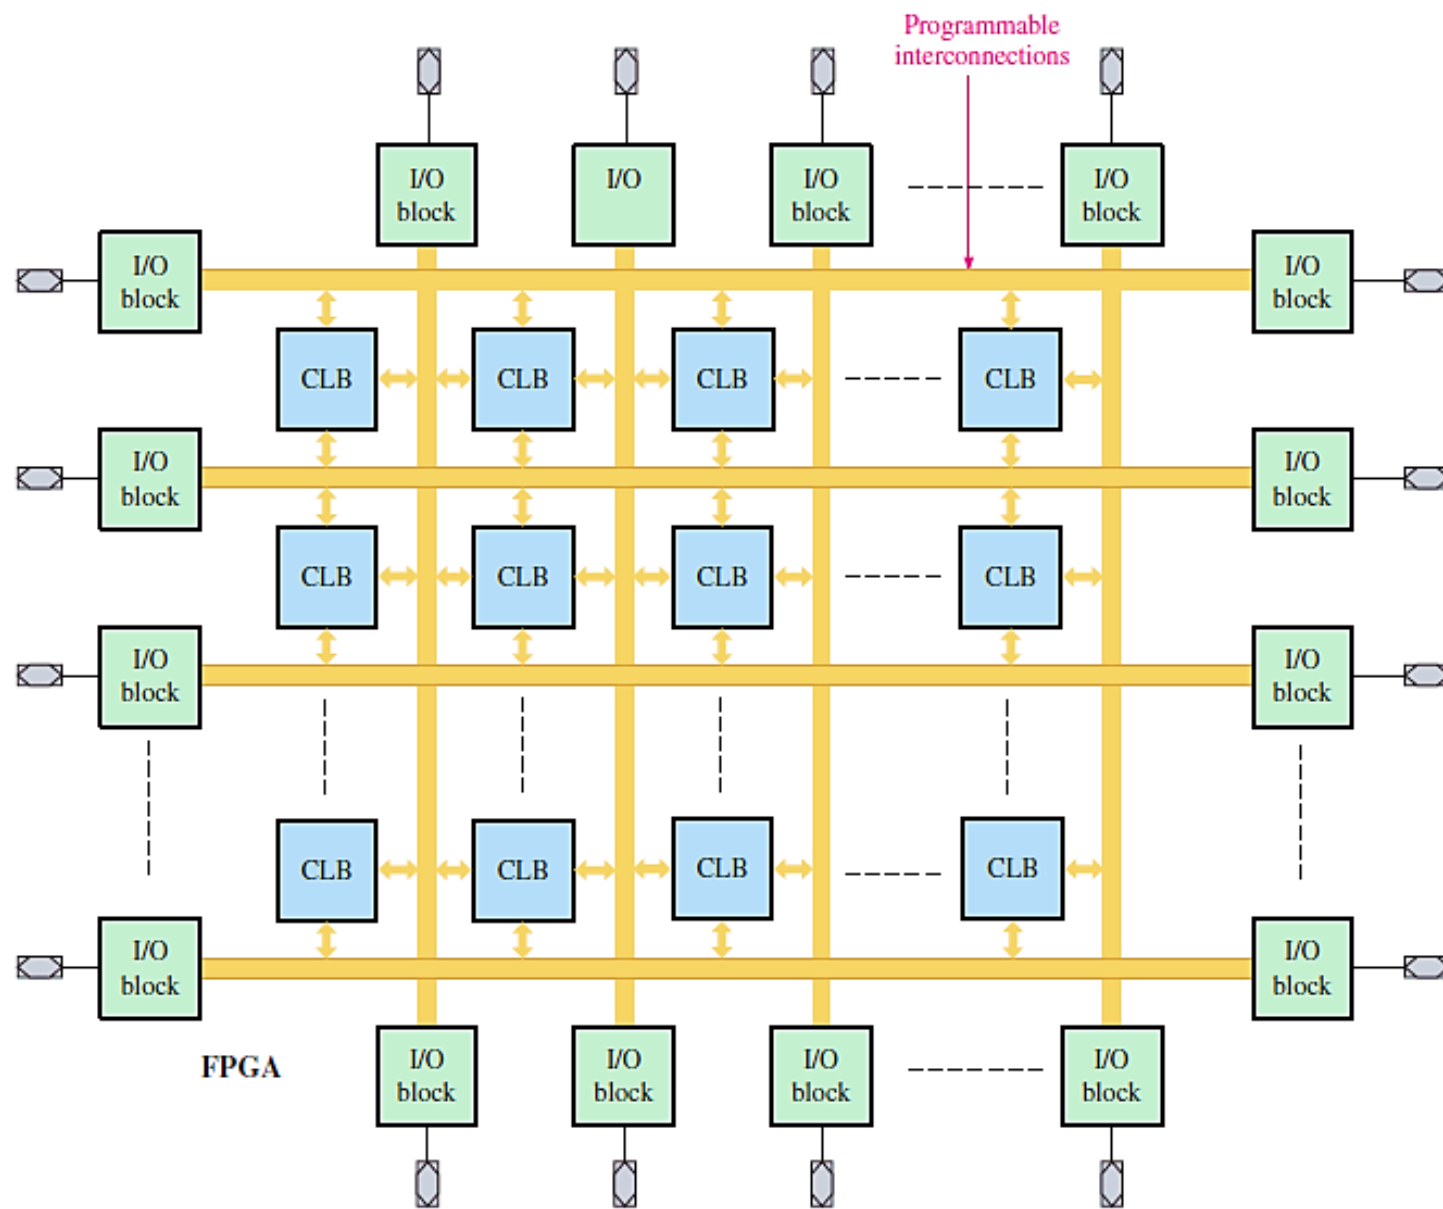

FIGURE 9 Basic structure of an FPGA. CLB is configurable logic block, also known as logic array block (LAB).
- ❖ The three basic elements in an FPGA are the configurable logic block (CLB), the interconnections, and the input/output (I/O) blocks, as illustrated in Figure 9.